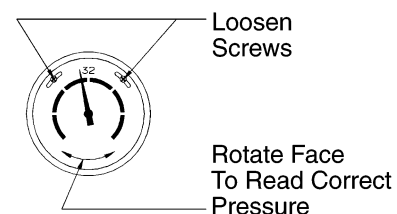

Figure 28 - Calibrating Pressure Gauge
2. Remove the gauge lens and loosen the 2 screws at the top of the gauge and rotate the gauge face until the indicator is pointed at the correct pressure as read with the extension type tire gauge (figure 28).